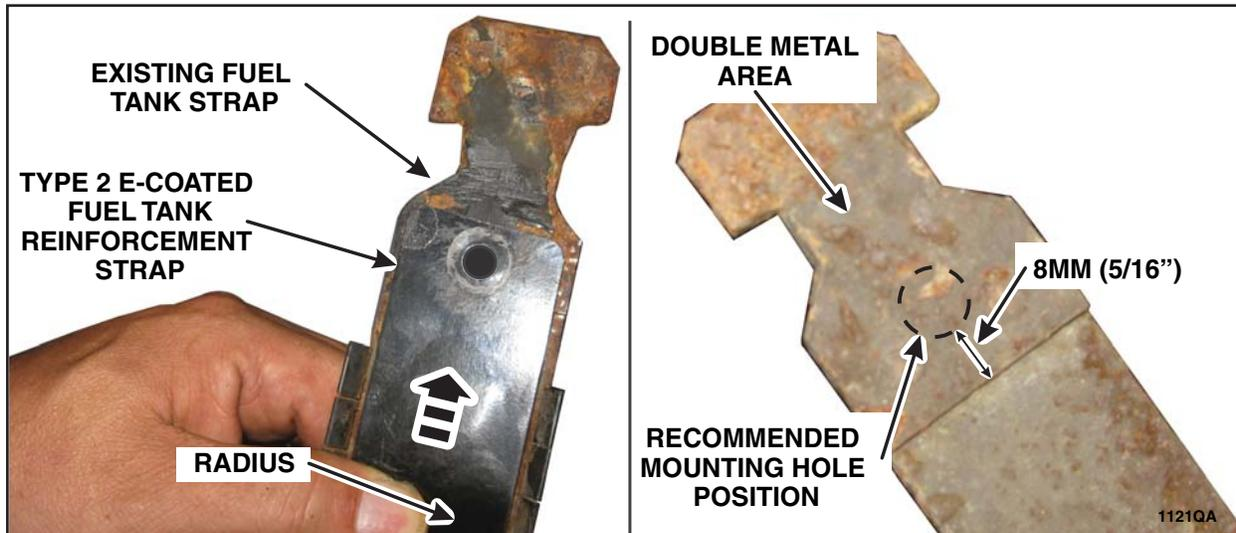

FIGURE 2
3. Install the appropriate Type 2 strap onto one of the existing fuel tank straps. Position the reinforcement strap upward while keeping it tight against the existing fuel tank strap radius. Ensure that the position of the Type 2 strap mounting hole is at least 8mm (5/16") from the bottom edge of the T-side doubled metal area. See Figure 2.